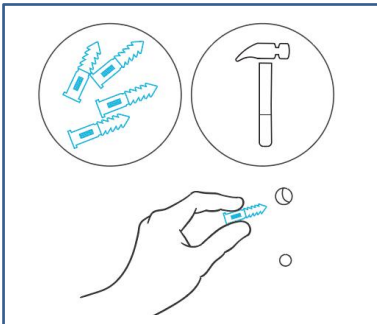

Fig.5.
- 1、 If you are mounting onto anything other than a wood support or stud, insert the included four wall anchors into the drilled mounting holes. You may need to use a hammer to secure them through the holes. See the (Fig.5.)